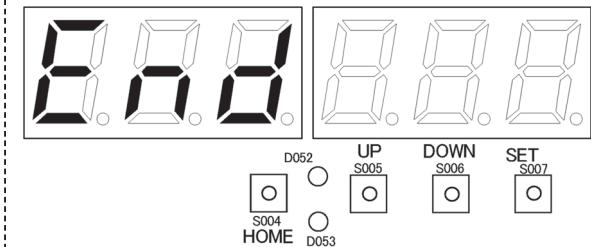

Figure 5
- 6) Release the SET (S007) key once “ **£ £ r** ” is displayed, then quickly hold it down again. “ **E n d** ” will be displayed (Figure 5), and the oil use time will be reset to 0 hours. Next the oil use time will be displayed and can be checked.